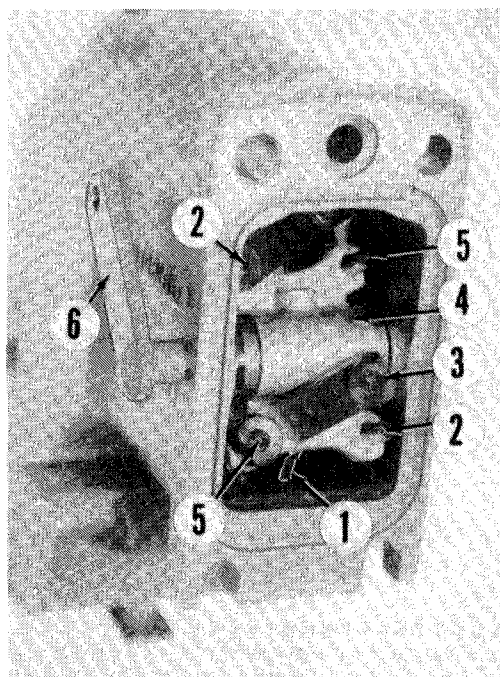

Fig. 265—Before removing SCV rocker (4), note which side of housing the operating arm (6) is located on to ensure correct reassembly.
NOTE: Identify the two pressure valve adjusting screws (2—Fig. 265) and the two return valve adjusting screws (5) with a marker or tape to avoid confusion during adjustment.
Turn the four valve adjusting screws (2 and 5—Fig. 265) inward until screws, cams and valve follower rollers are all in contact. Then, back out pressure valve adjusting screws (2) 1/2 turn and back out return valve screws (5) 1/4 turn. Back out detent screw